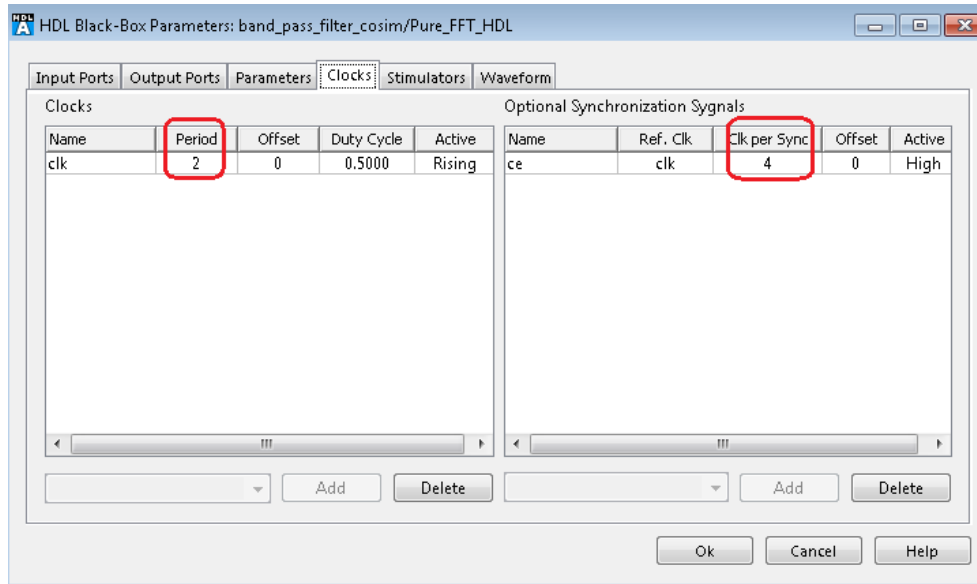

Figure 7 HDL Black-Box Parameters (Clocks Tab)
- **Clocks:** (as shown in Fig 7) allows precise specification of model synchronization signals such as Clock, Clock Enable, or other synchronization signals.
For example Figure 7 shows the HDL Black-Box Parameters of one of the FFT blocks: